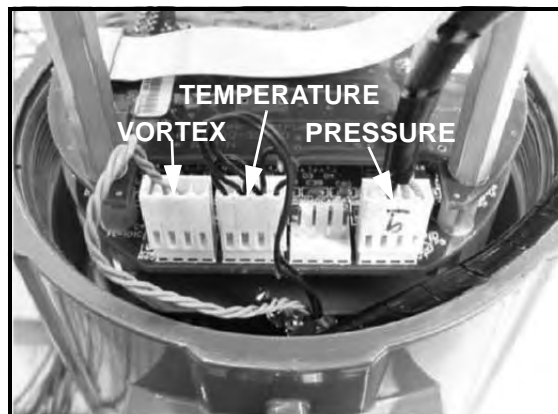
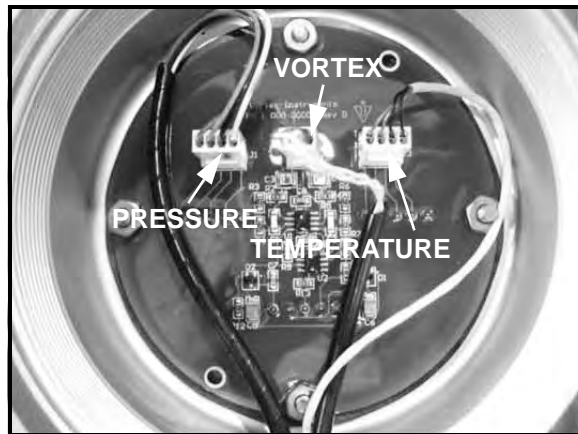

Figure 56: Electronics Stack Sensor Connections
Figure 57: Remote Feed Through Board Sensor Connections
3. Using ESD precautions and hazardous area precautions, remove the electronics enclosure window cover. Disconnect the vortex sensor from the electronics stack or remote feed through board. Refer to Figure 56 on page 101 or Figure 57 above. Measure the resistance from each outside pin to the meter ground - each should be open. Measure the resistance from the center pin to the meter ground - this should be grounded to the meter.
3. Using ESD precautions and hazardous area precautions, remove the electronics enclosure window cover. Disconnect the temperature sensor from the electronics stack or the remote feed through board. Refer to Figure 56 on page 101 or Figure 57 on page 102. Measure the resistance across the outside pins of the temperature sensor connector. It should read approximately 1080 ohms at room temperature (higher resistance at higher temperatures).
3. Locate the sensor harnesses which come up from the neck of the flowmeter and attaches to the circuit boards. Make note of the location of each sensor connection. Refer to Figure 56 on page 101 and Figure 57 on page 102. The vortex sensor connection is on the left, the temperature sensor connection (if present) is second from the left, and the pressure sensor connection (if present) is the right most connector. Use small pliers to pull the sensor wiring connectors off of the circuit boards.